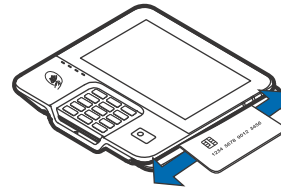

Figure 10 Using the Magnetic Card Reader
- 2 Position a magnetic card with the stripe to face downward, as shown in Figure 10.